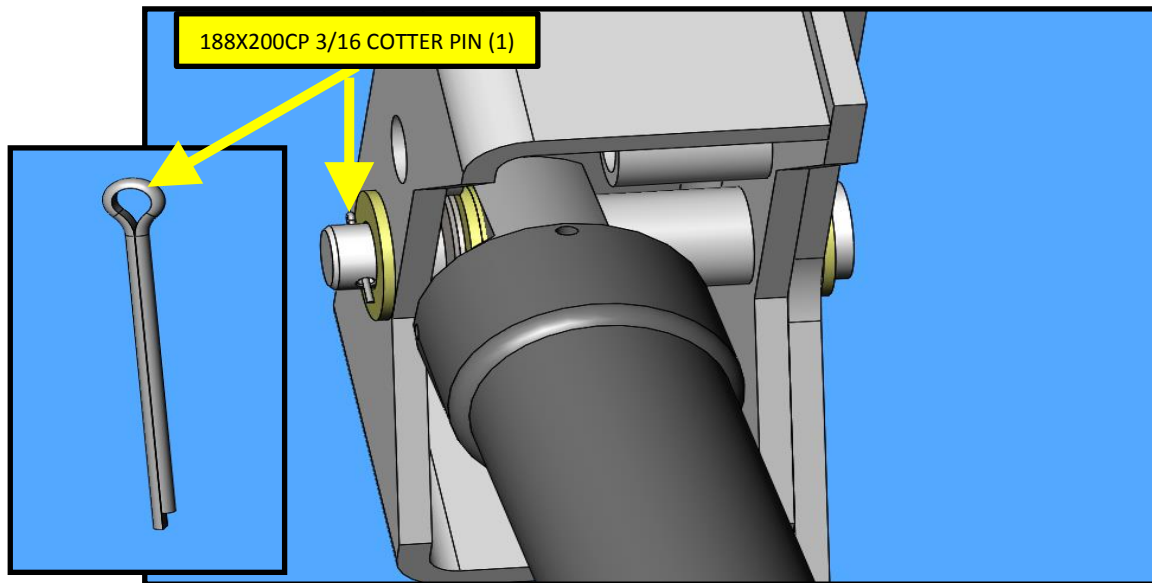

FIG. 11-1
- 17. After the new 0965-EE1-003 upper pin is installed, insert (1) 188X3200CP 3/16" X2.0" cotter pin as indicated, then bend legs to prevent the cotter pin from falling out. Refer to FIG. 11-1.